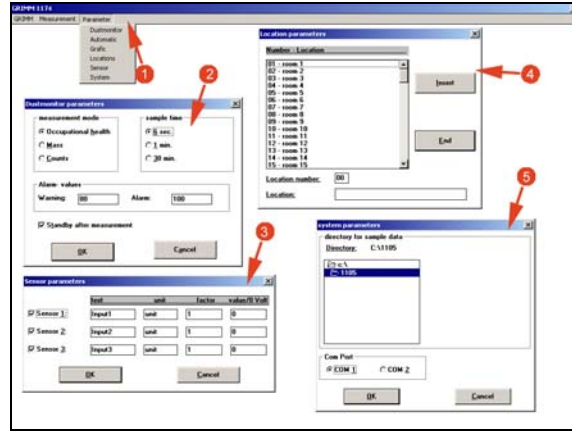

Fig.4: Parameter-setup of the OPC
4. **open the Parameter toolbox** (step 1 in fig.4):
- Dustmonitor (step 2 in fig.4);
- Define sensor parameters (if applicable - step 3 in fig.4);
- Define site of measurement (step 4 in fig.4);
- Define target directory for logged files (step 5 in fig.4);